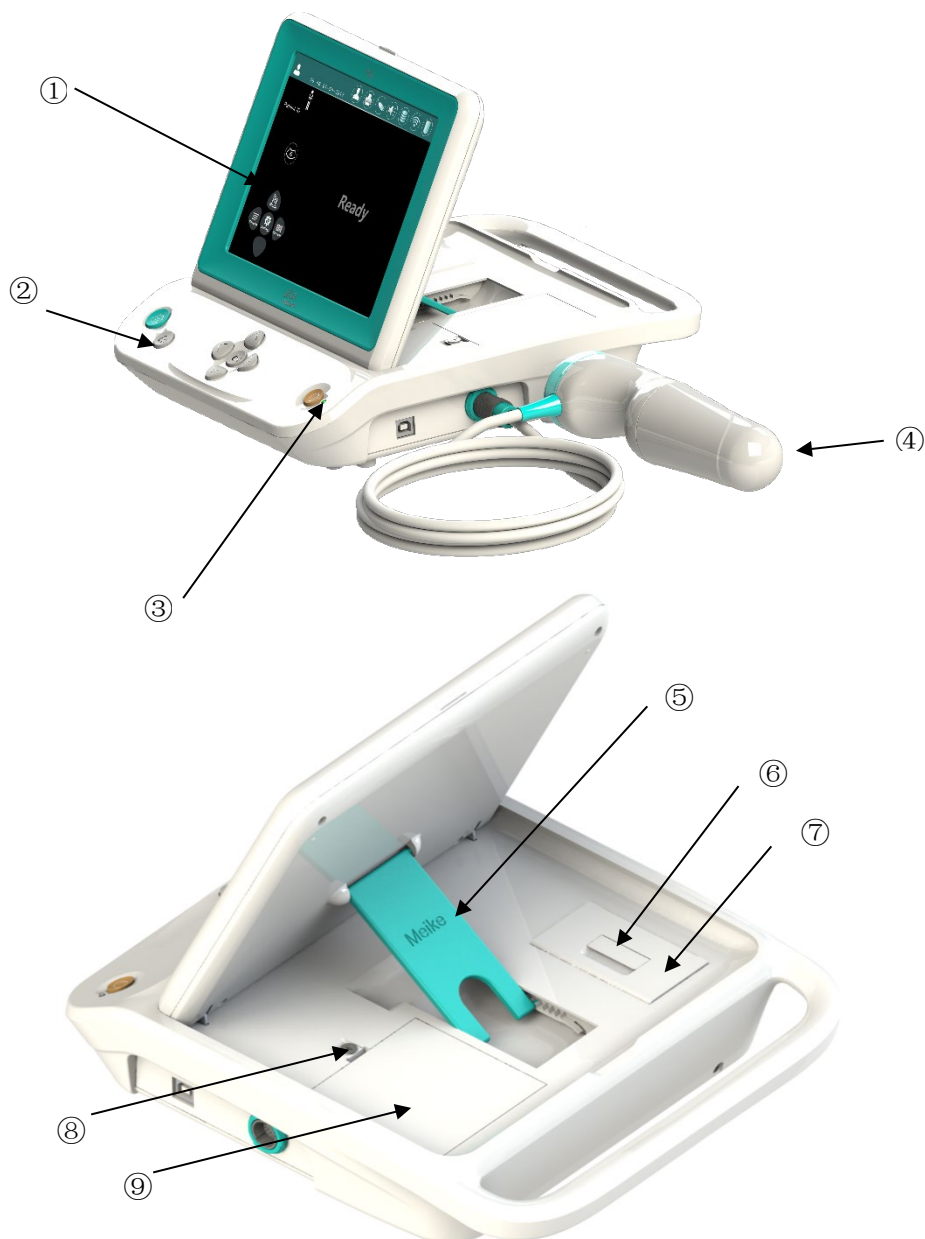

Figure 3-3 Device picture
3.3.1 The picture of the device, see Figure 3-3